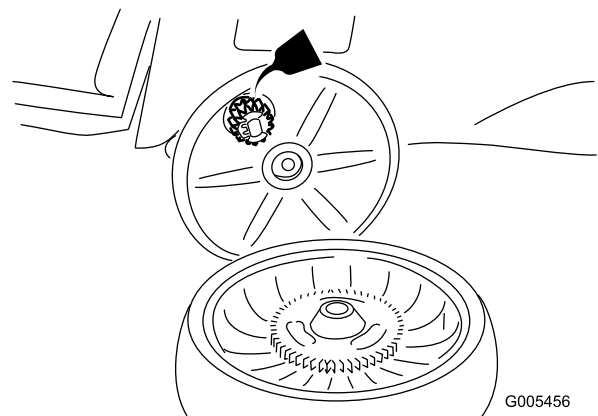

Figure 28
2. Apply a lubricating oil to the gear as shown in Figure 28.